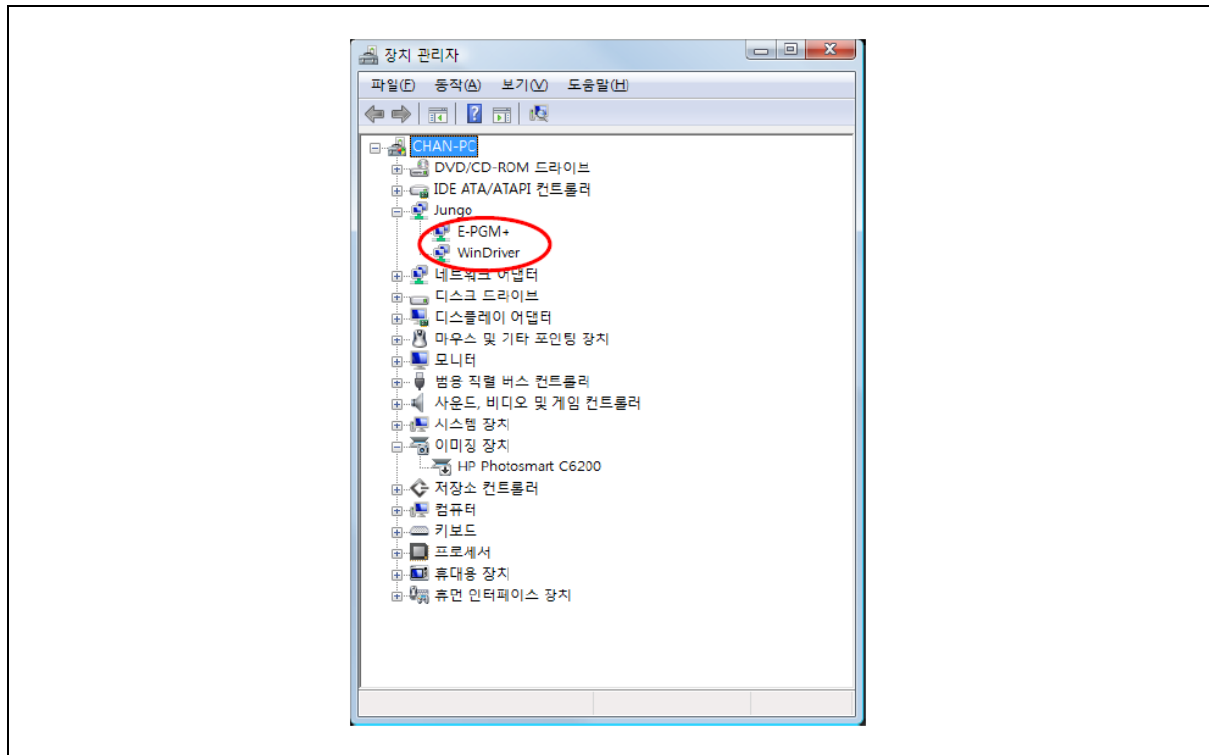

Figure 15. Device Manager
8. Connect the E-PGM+ or E-GANG4/6 to the PC, and turn it on. The E-PGM+ or E-GANG4/6 should be automatically recognized and displayed in Device Manager as shown in Figure 15.